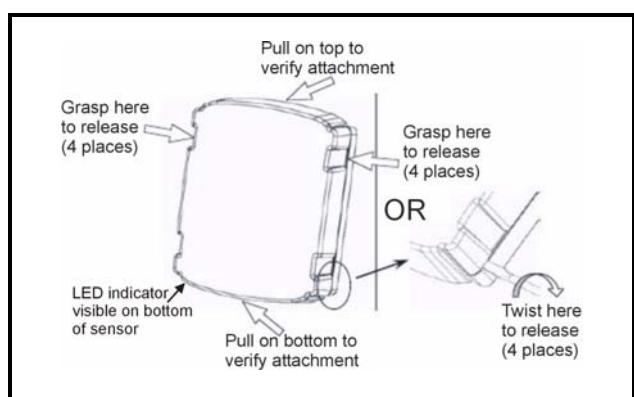

Figure 2-2 - Attaching and Removing Cover
6. Verify the cover is securely attached to the base by pulling on the top and bottom of the cover as shown in **Figure 2-2**.
NOTE: To remove the cover, grasp it along the recesses and pull it away from the base (**Figure 2-2**). Alternatively, place a screwdriver into the slots indicated in **Figure 2-2** and twist.